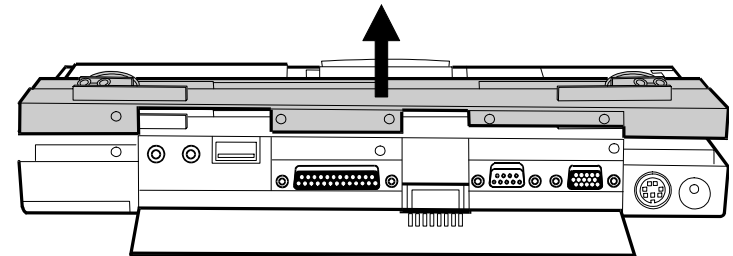

Figure 5-33. Removing the Rear Frame
4. Replace the rear frame and five rear screws. (Refer to Figure 5-33 and 5-32 earlier.)